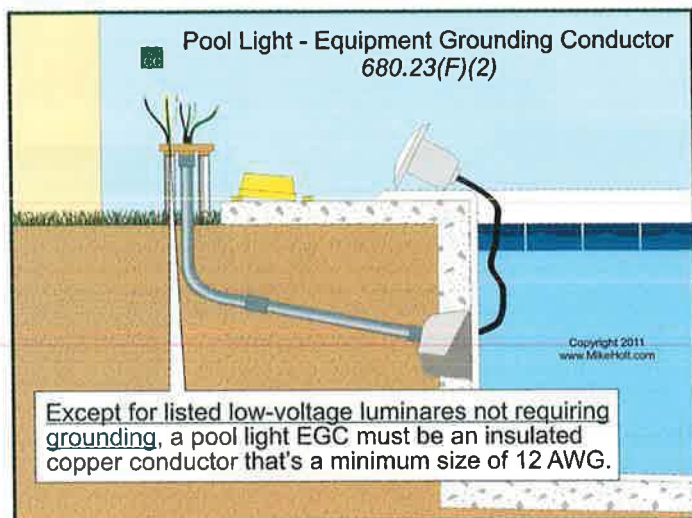

Figure 680-24
(2) Equipment Grounding Conductor. For other than listed low-voltage luminaires not requiring grounding, branch-circuit conductors for an underwater luminaire must contain an insulated copper equipment grounding conductor sized in accordance with 250.122, but not smaller than 12 AWG, **Figure 680-24**. The circuit equipment grounding conductor for the underwater luminaire must not be spliced, except as permitted in (a) or (b).